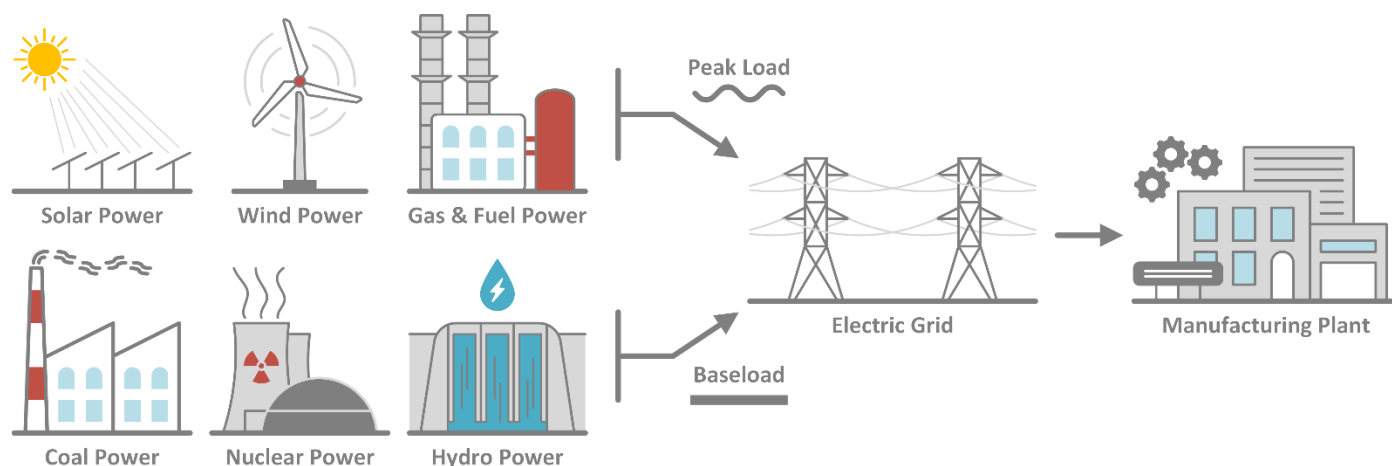

Figure 2: Baseload and peaking power plants supply electricity to the grid, which delivers electricity to your facilities.
The electricity that is supplied to your facilities comes from many different sources1. The largest energy sources for electricity are fossil fuels (coal, natural gas, and petroleum), nuclear power, and renewables (e.g., wind, hydro, solar, biomass, geothermal). The relative amounts of each fuel source used have changed over the past few decades, with natural gas displacing coal-fired power plants and heavy investment in renewable energy, particularly wind and solar. Power plants generate alternating current (AC) power by converting energy sources into electricity. Most power plants use energy from fuels, moving air/water, or underground heat to create steam that powers electric generators. Photovoltaics create direct current (DC) electricity that is converted to AC through an inverter. All of this power is delivered first to the electrical grid and then ultimately to your manufacturing plants (Figure 2).